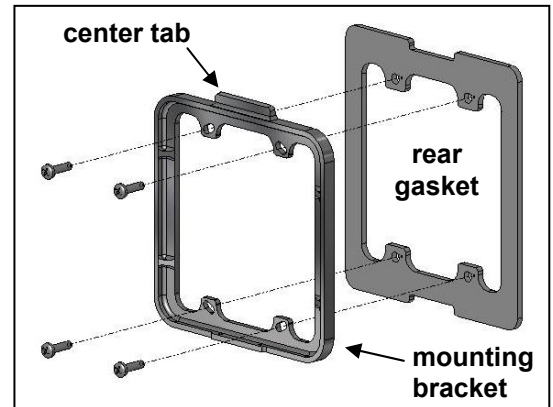

Figure 6
- As shown in **Figure 6**, the first step to installing the Selective Call Patio Unit is to place the included weather proofing rear gasket against the gang or back box, and secure the gasket in place with the included mounting bracket.